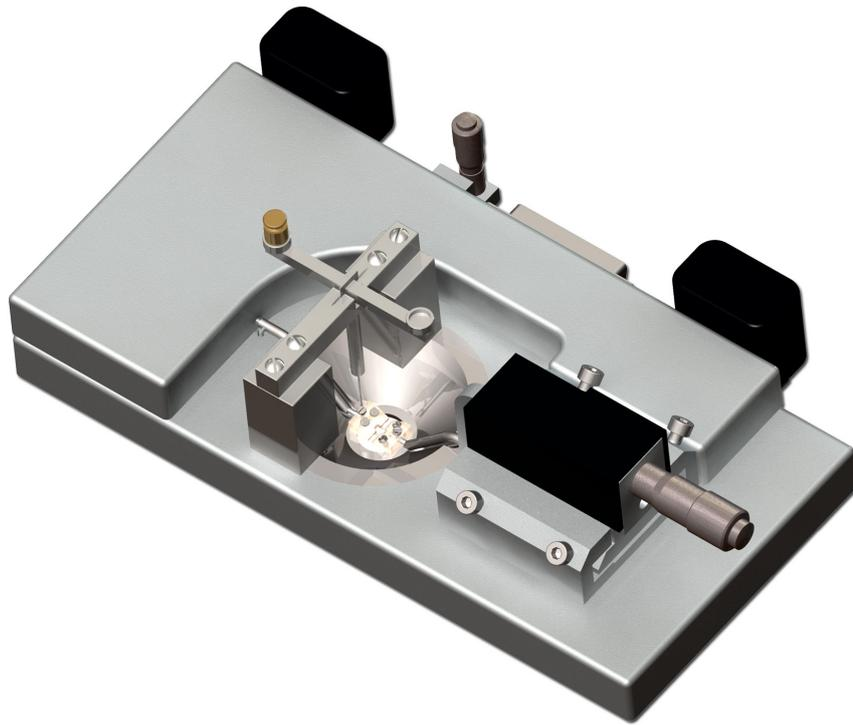

Figure 3.1 Force calibration set-up - showing placement of the calibration bridge and T-balance (with weight in place) for Wire Myograph - 360CW
- Place the calibration bridge and T-balance on the Wire Myograph (see figure 3.1 for 360CW or 3.2 for 320A) allowing it to be warmed up together with the Wire Myograph. Turn on the heating in the Heat sub-menu to the appropriate temperature used during your experiments
Step 5 - At this step, place the 2 gram weight at the pan on the calibration T-balance closest to the transducer (over the transducer) see figure 3.1 or 3.2, to simulate the stretch created by the contraction of a mounted ring preparation.